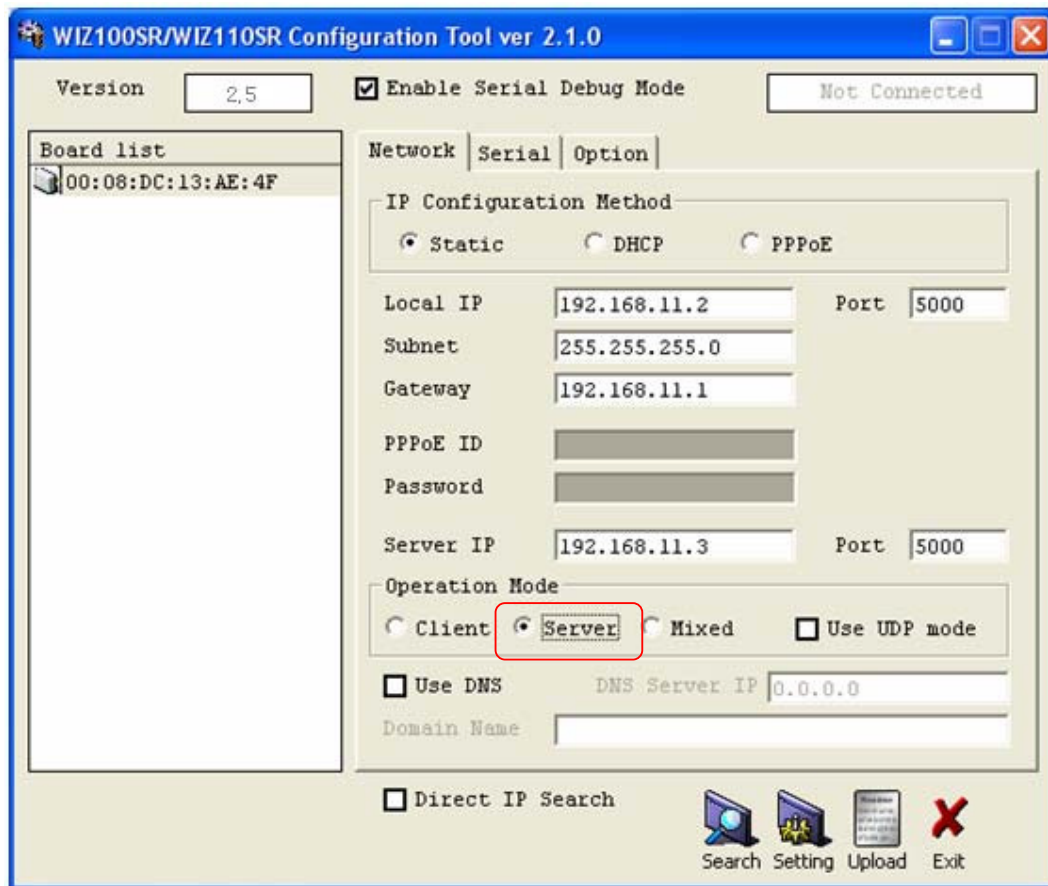

Figure 10. Select Operation mode for Password setting
- ③ Select a module shown in "Board list", and click "Upload" button.
- ⚠ Before uploading through Ethernet, you should set the network information of WIZ100SR first by Configuration Tool program as shown above Fig 10. By using Ping test, you can check if network is correctly configured.